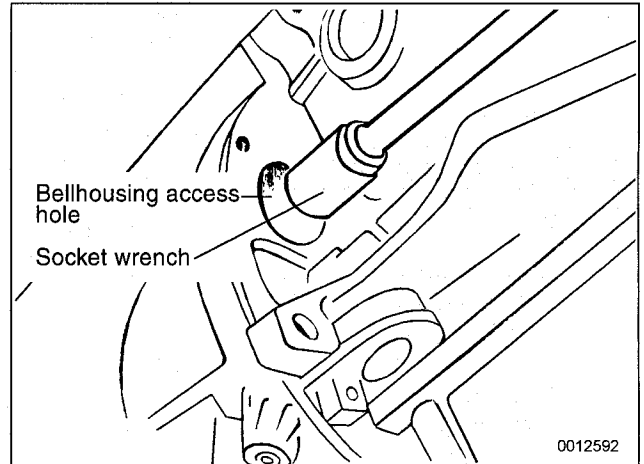

Fig. 9. Access and remove torque converter bolts through hole in bellhousing cover.
12. Remove access plug in cover plate on right side of engine block and remove torque converter bolts. Turn crankshaft to access bolts. See Fig. 9.